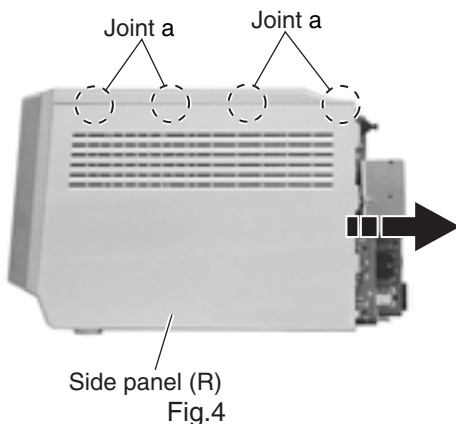

Fig.4
2. Remove each side panel backward while releasing the eight joints **a** as shown in Fig.4 and 5.